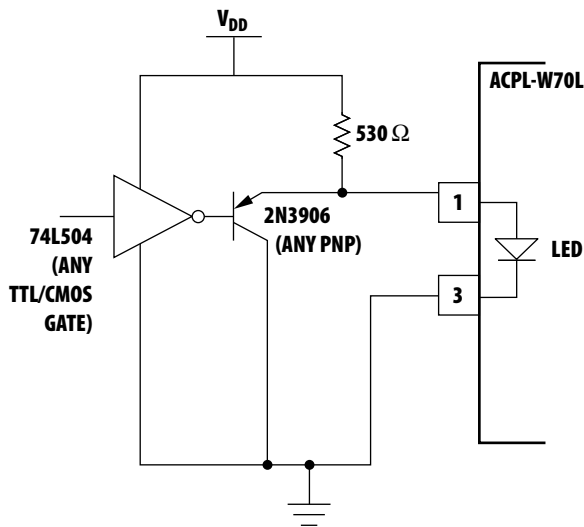

Figure 15. TTL interface circuit for the ACPL-W70L families.
1. Use of drive circuits where current is shunted from the LED in the LED "off" state (as shown in Figures 15 and 16). This is beneficial for good CM_H .
Using any one of the drive circuits in Figures 15-17 with $I_F = 6 mA$ will result in a typical CMR of $10 kV/\mu s$ for ACPL-W70L AND ACPL-K73L, as long as the PC board layout practices are followed. Figure 15 shows a circuit which can be used with any totem-pole-output TTL/LSTTL/HCMOS logic gate. The buffer PNP transistor allows the circuit to be used with logic devices which have low current-sinking capability. It also helps maintain the driving-gate power-supply current at a constant level to minimize ground shifting for other devices connected to the input-supply ground.